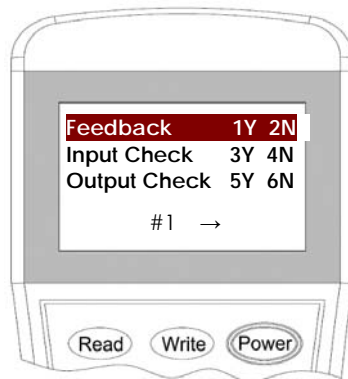

Figure 11: Page 1 for first address
4. The LF-X5220 takes two addresses. For the 1st address, input the **"1"** for Self-feedback mode or **"2"** for External-feedback mode then press **"Write"** to change the setting (Figure 11).